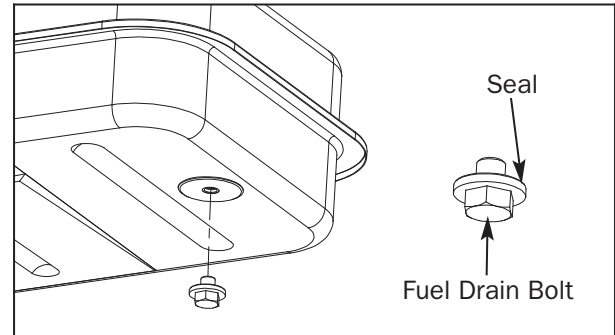

Figure 12 – Drain Plug Removal
1. Remove drain bolt from bottom of fuel tank. See Figure 12.